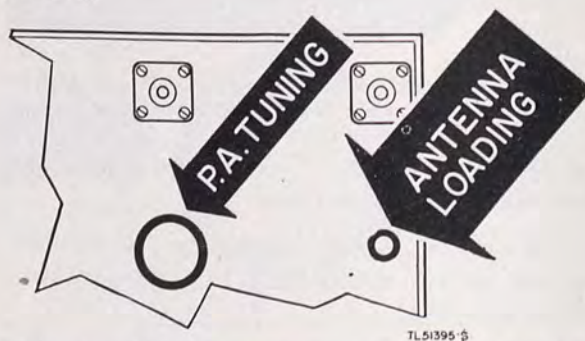

Figure 12. P. A. TUNING and ANTENNA LOADING, Radio Transmitter T-14(\*).
(17) *Antenna loading capacitor* (fig. 12). The inductive reactance of the antenna coupling circuit is balanced out by the reactance of fixed capacitor C42 and variable capacitor C41 which acts as an antenna loading adjustment.